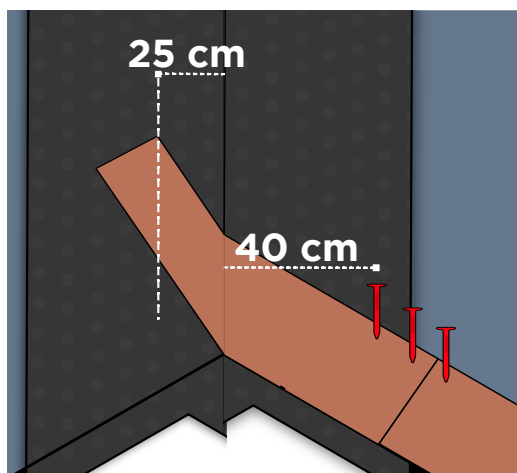

Fig. 12 - Shingles installation at valleys
- As for the roof valleys, prepare a band of bituminous membrane about 100cm wide, applied by torch in advance, to ensure its waterproofing - Fig. 12.
Install the starting row and the shingles of the first pitch, making them rise 25 cm above the valley line. It is advisable to cut the shingle, once installed, following a parallel line to the valley at 25cm. The shingles should be fixed by torch where there is the bituminous membrane and by nail in the remaining part. Do not nail the shingles less than 40 cm from the valley line - Fig. 12.